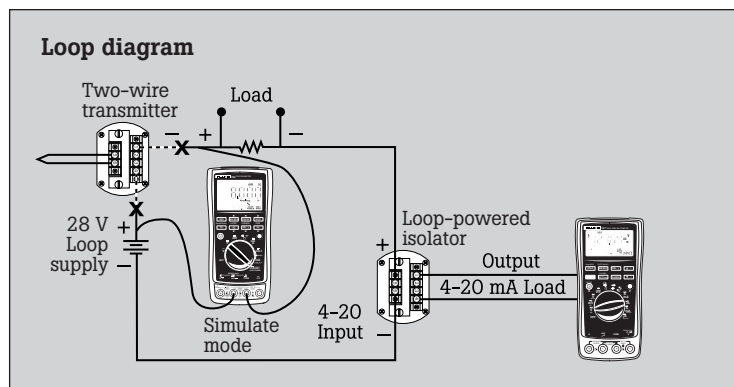

Figure 2
Fluke loop calibrators have a unique current simulation feature that, when connected to an external power source, allows you to precisely control current between 0 mA and 24 mA. When field checking a loop-powered isolator, the two-wire loop transmitter supplying signal current to the isolator for the loop may be removed and the calibrator connected in simulate mode to control loop current (Figure 2).
1. Disconnect the main loop transmitter and connect the Fluke 789 to the loop with the test leads plugged into the center or "Simulate" terminals of the calibrator (see Figure 2).
2. Set the 789 rotary switch to the mA output mode. Set the Fluke 789 to the 4-20 mA output mode. Make connection for simulate mA. The 789 is now outputting a precise 4 mA and is providing operating power to the input of the loop-powered isolator (see Figure 2).
3. Place a Fluke 187 or equivalent multimeter (1  $\mu$ A resolution is ideal; 10  $\mu$ A is acceptable), set in the mA measurement mode, on the output side of the isolator to monitor output current (see Figure 2).